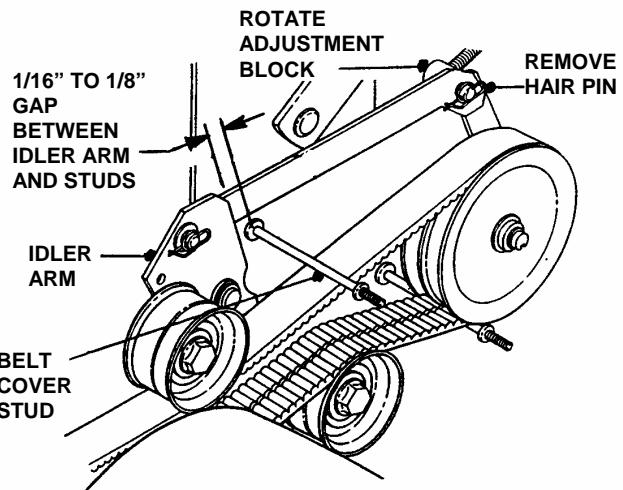

FIGURE 5.2
4. Remove the hairpins from the traction rod adjustment blocks and remove the adjustment blocks from the traction links on each side of the mower. See Figure 5.2.
5. Rotate the adjustment block as required to make the idler arms almost touch against the belt cover studs when the Traction Levers are locked. There should be about $1/16"$ to $1/8"$ gap between the idler arms and studs. See Figure 5.2.